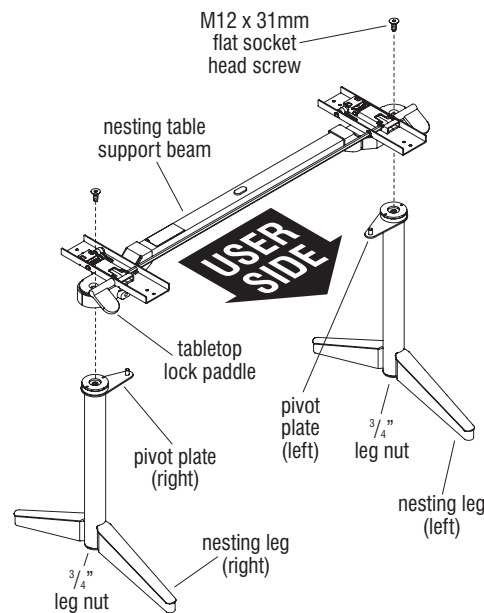

Figure 1 - Leg Installation
2. Locate the nesting table support beam assembly and position it so the tabletop lock paddles face the "user side" as illustrated. Choose one nesting leg and identify if it is right- or left-hand by the letter under the pivot plate, then stand it upright. Position the nesting leg such that the pivot plate nests into the mounting location in the beam assembly at the correct left or right-hand location as illustrated using an 8 mm Allen wrench. Twist in a M12 x 31mm flat socket wrench. Twist in a M12 x 31mm flat socket head screw through the top of the nesting table support beam and into the top of the nesting leg being installed, but do not fully tighten at this time. Repeat the process to loosely attach the second leg to the support beam. Once both legs are attached to the support beam (but not fully tightened), locate the 3/4" leg nut at the bottom of one leg. Hold the leg nut with a 3/4" wrench (but do not turn), and at the top use a torque wrench with 8 mm Allen head and tighten the M12 x 31mm screw to 50 ft/lb of torque. Do not over-tighten. Repeat the process above to tighten the M12 x 31mm screw at the other leg (Figures 1 & 2).